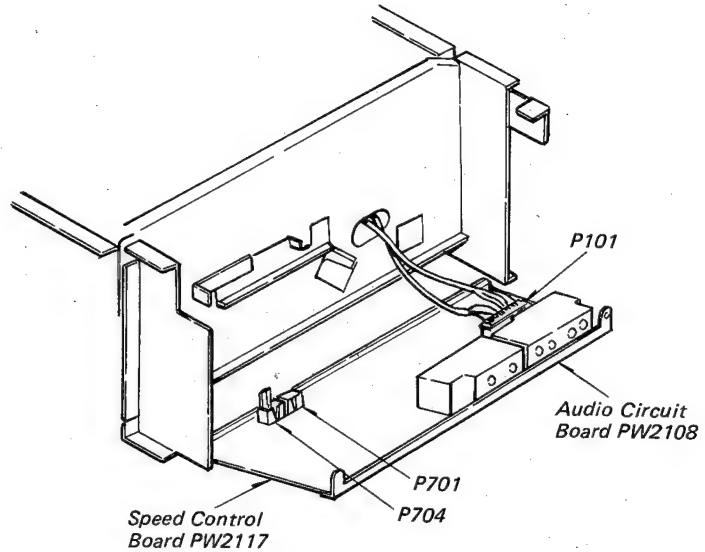

Fig. 5-71 Audio Circuit Board PW-2108.
2. Disconnect the 10-pin connector P101, 4-pin connector P701, and 5-pin connector P704 from the Audio Circuit board PW-2108 and press the connectors inside the right corner of the frame (see Fig. 5-71).